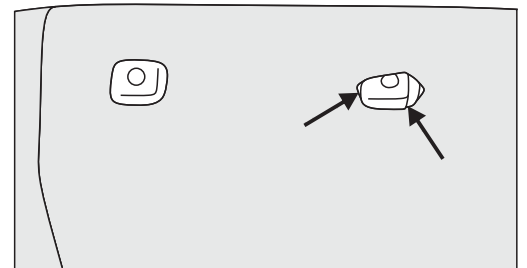

Fig. 3
3. Using your fingers, push backrest cover under headrest guide mechanisms to hold the top part of the backrest cover in place and centrally aligned (a). (Fig. 3)